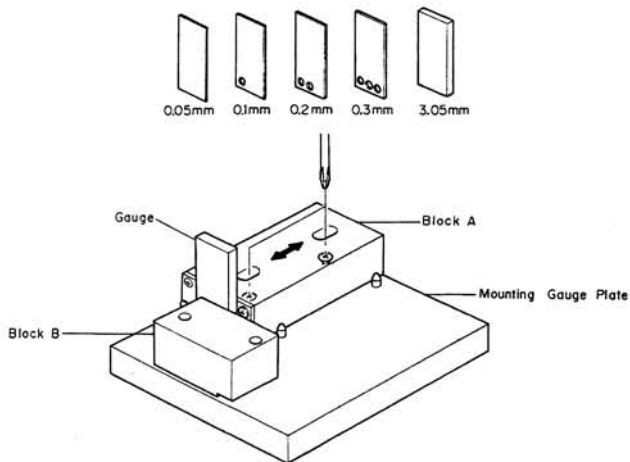

Fig. 2.18
Refer to Figs. 2.18 and 2.19.
- (1) Check the accuracy of the record head stroke.
- (2) Remove Head Mount Base Ass'y.
- (3) Remove the record head assembly.
- (4) Adjustment of Record Head Mounting Gauge M-9048 (DA0-9048B)
- (c) As shown in Fig. 2.18, hold the Gauges (3.05 mm and 0.1 mm thickness) between the Block A and Block B, and fix the Block A with screws, pushing the Block A to the 2 guide pins.
- (5) Remove the Block B from the Mounting Gauge Plate.
- (7) Remove the record head assembly from the Mounting Gauge Plate.
- (8) Readjustment of Record Head Mounting Gauge M-9048 (DA09048B)
- (c) As shown in Fig. 2.18, hold the Gauges (3.05 mm and either one of 0.05, 0.15, 0.2, 0.25, 0.3 or 0.35 mm thickness) between the Block A and Block B, and fix the Block A with screws, pushing the Block A to the 2 guide pins.
- (9) Remove the Block B from the Mounting Gauge Plate.
- (10) Mount the record head assembly onto the Mounting Gauge Plate.